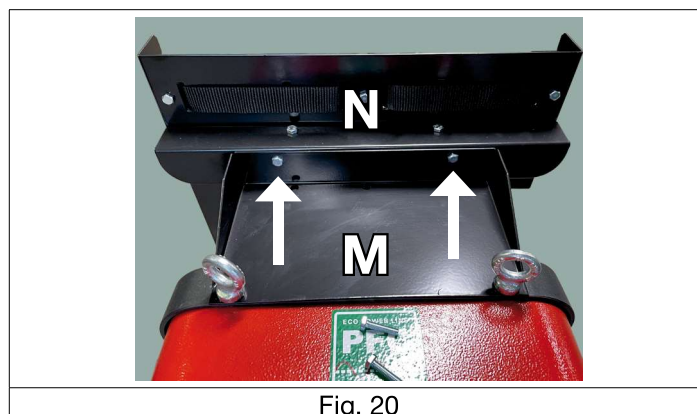

Fig. 20
Unire la flangia superiore (M) al supporto (N) (fig.20)
*Join the upper flange (M) to the support (N) (fig.20)*
Unir la brida superior (M) al soporte (N) (fig.20)